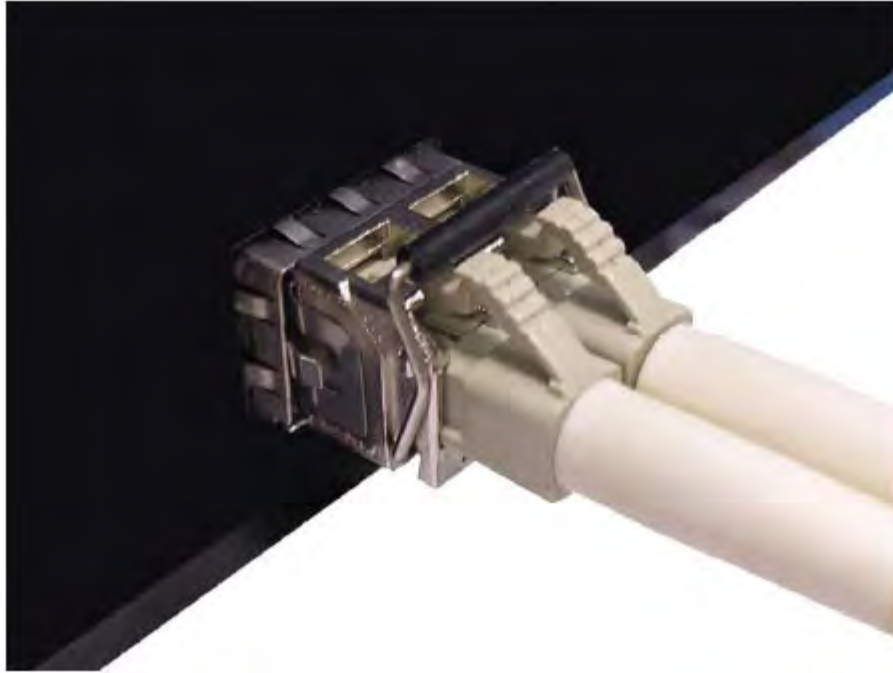

FIGURE 5-3 LC connector to SFP module
8. Insert the fiber cable LC connector into SFP module as shown in Figure 5-3.